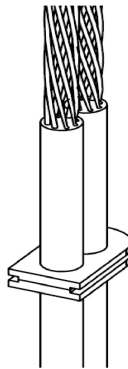

Fig. 17
4.1.1. When second cable is used, insert the second cable through the other entry position, as shown on Fig. 17;